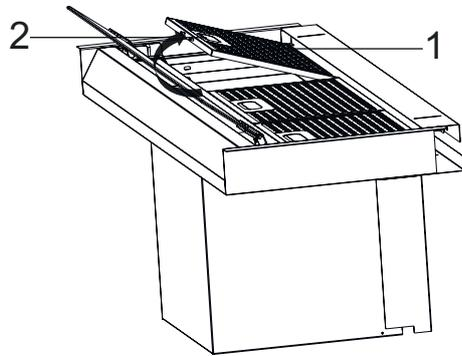

Fig. 15
1. → Remove the appliance package and place the aluminium filters facing upwards. (Fig. 15).
Press the aluminium filter latch (Fig. 15/1) and pull upwards (Fig. 15/2) to remove.